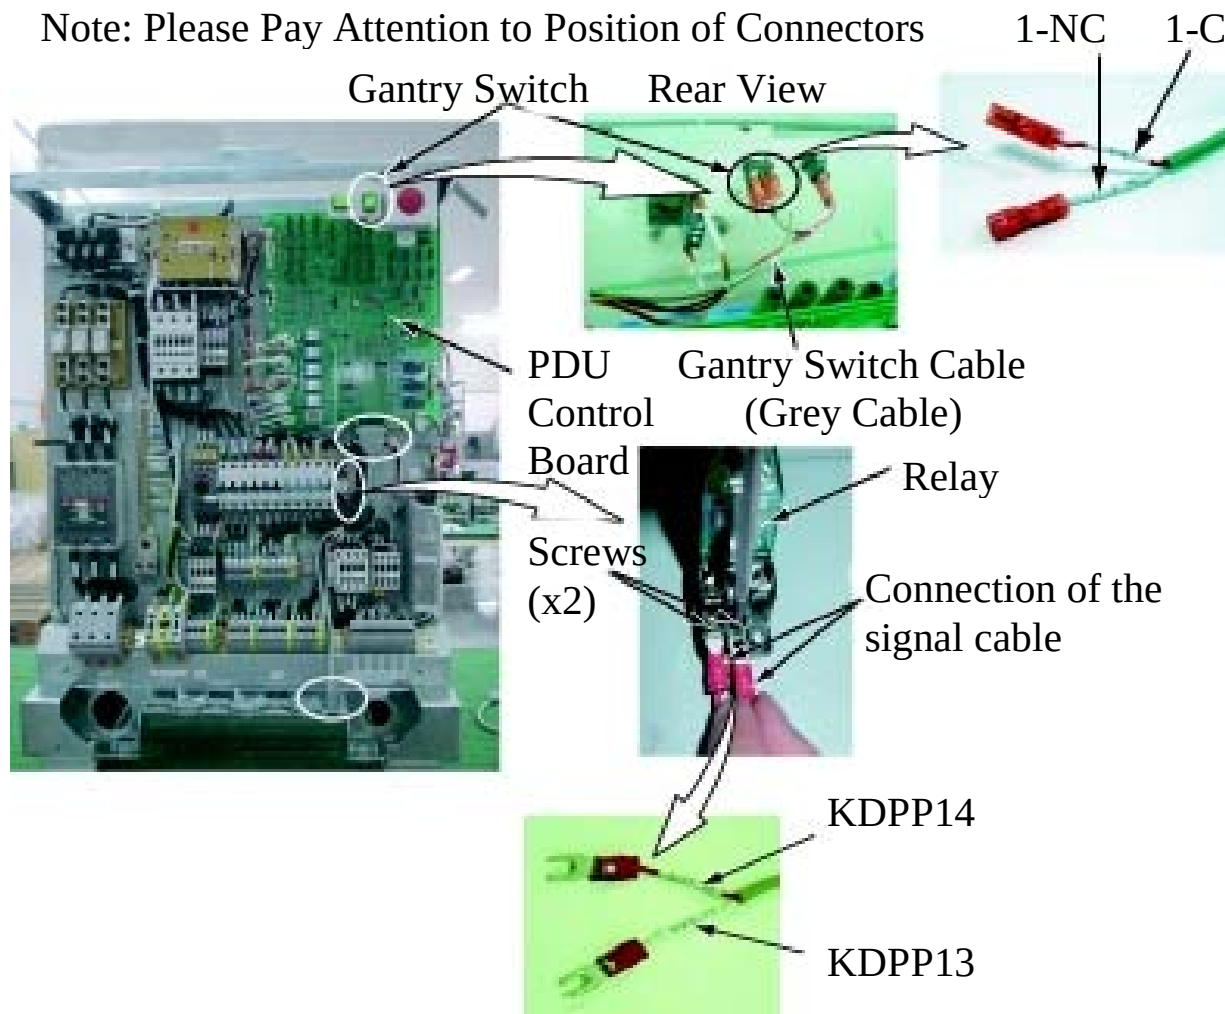
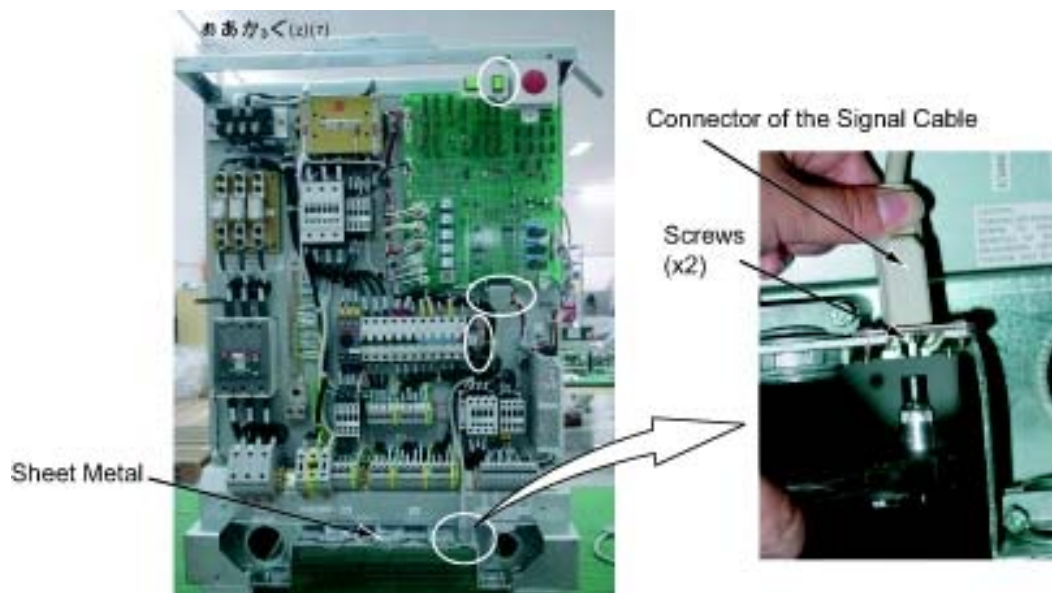
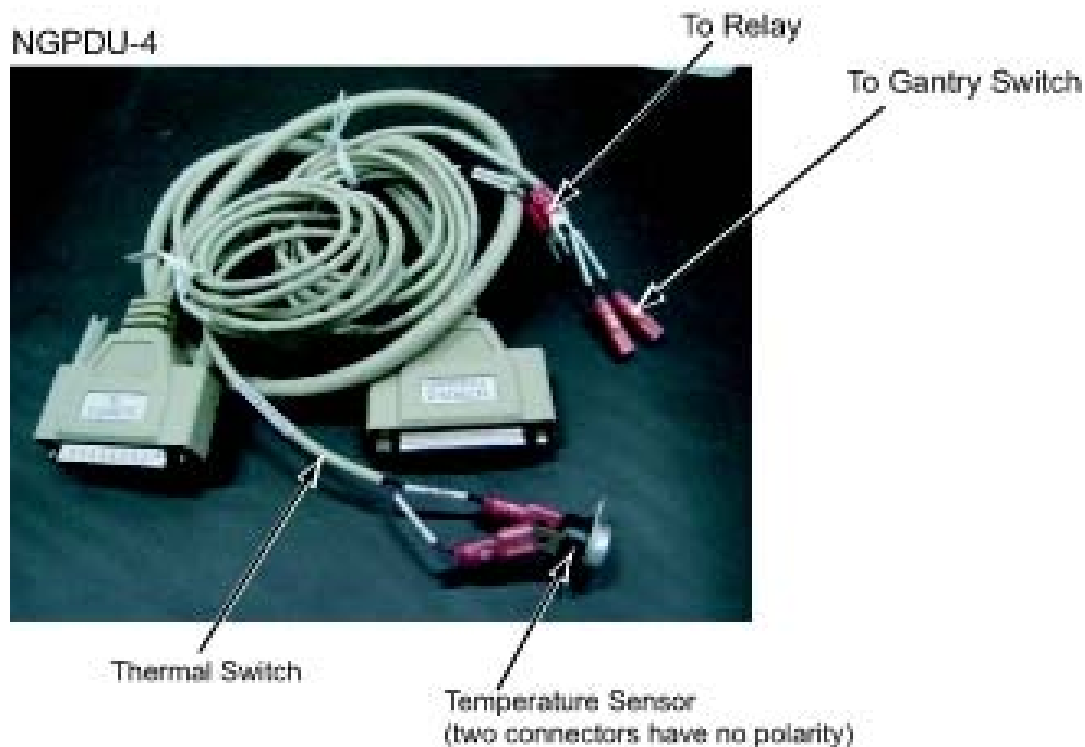
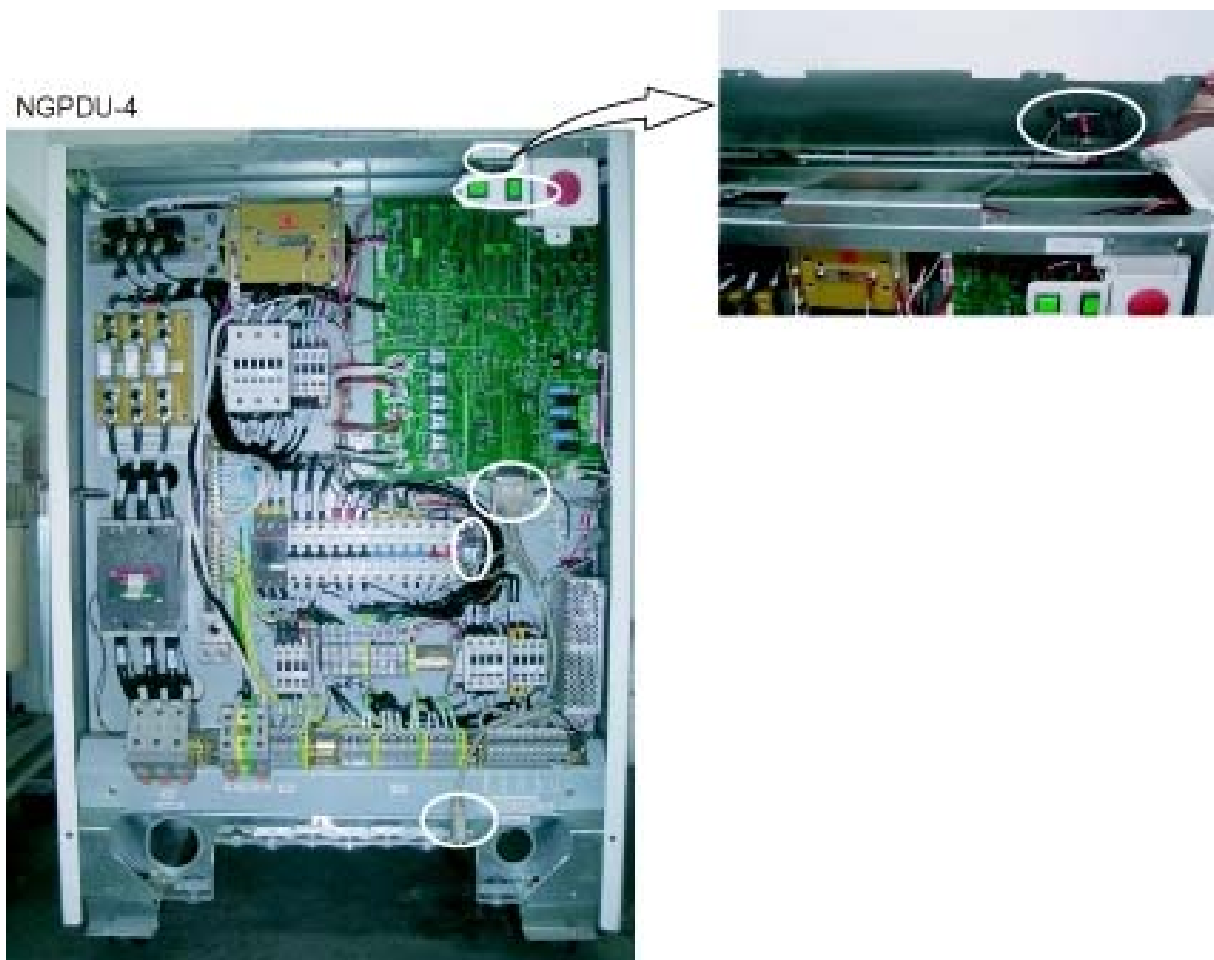

Figure 2 Remove Signal Cable
Figure 3 Remove the Signal Cable
Figure 4 Install the Temperature Sensor
Figure 7 Install the Signal Cable
- a. Carefully remove the connectors of the old signal cable from the Gantry Switch, avoid causing damage to the cable or the Gantry Switch. See Figure 2 & 8-10.
- b. Remove the connector of signal cable from the PDU Control Board (J9). See Figure 2 & 9.
- c. Loosen the two screws that were used to secure the connectors of the signal cable (don't remove them from the relay), and then pull the two connectors out (KDPP13 & KDPP14). See Figure 2 & 9.
- d. Remove the connector of signal cable (J1) from the sheet metal by unscrewing its two screws with 5mm socket wrench. See Figure 3 & 8.
6. Connect the new signal cable to Control Board (J9), PDU Bulkhead (J1), the Gantry Switch and PDU Relay as identified in step 1. Use tie-wraps to secure the cable. See Figure 2, Figure 3, Figure 4, and Figure 7 - 10.